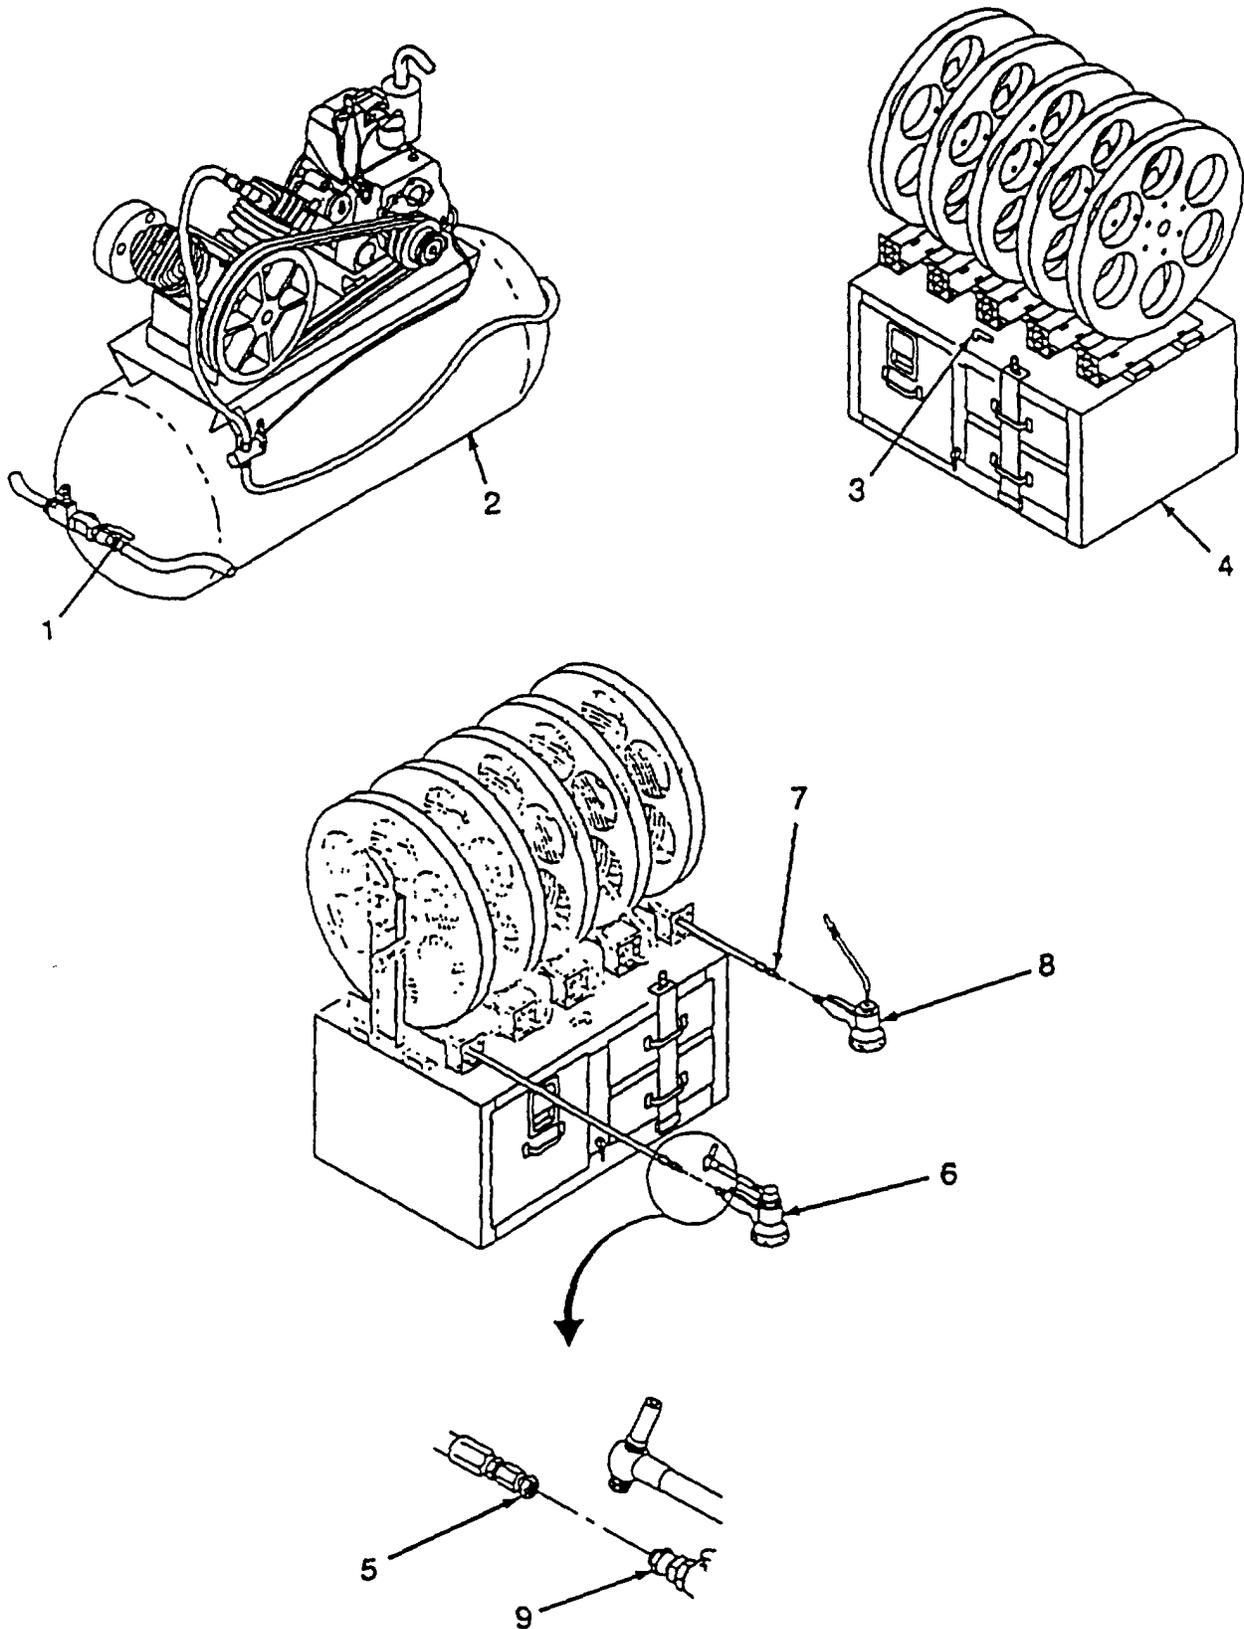

Figure 4-12. Gear Lube and Oil Dispensers
- a. Removal. (Refer to Figure 4-12.)
- (1) Close ball valve (1) at end of air-receiver tank (2).
- (2) Vent air pressure by opening valve (3) on reel cabinet assembly (4).
- (3) Vent air pressure by opening ball valve on gear lube pump (Reference para. 2-9.f.).
- (4) Loosen female swivel (5) and remove gear lube meter (6)
- (5) Loosen female swivel (7) and remove engine oil meter (8) with reducing connector (9).
- (6) Remove reducing connector (9) from engine oil meter (8)